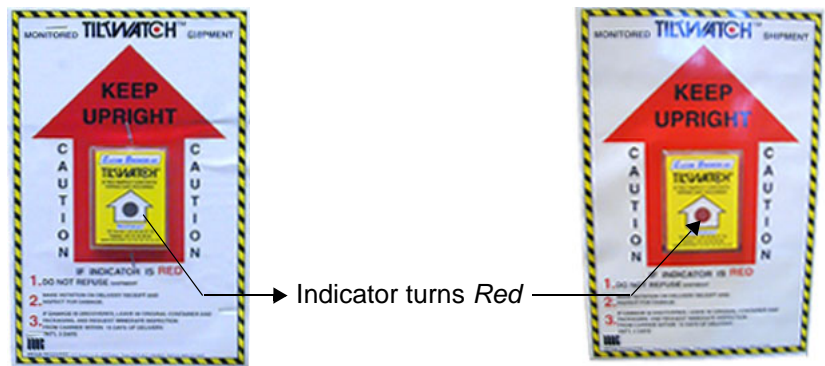

Figure 3-3 Drop and Tilt Indicator
- Inspect the Drop and Tilt Indicator for evidence of accidental shock or tilting during transit (damage incident, see: Figure 3-3 below).